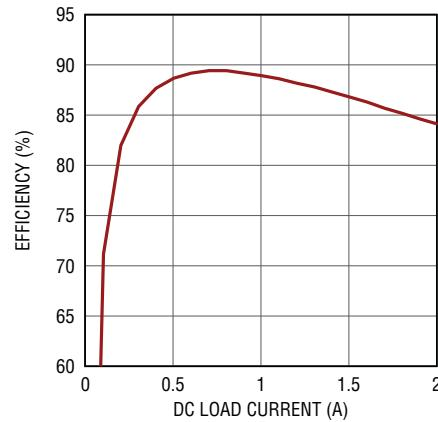

Figure 3. Efficiency vs. Load Current at $V_{IN} = 3.3V$, $V_{OUT1} = 1.2V$, $f_{SW} = 2MHz$
1. When measuring the output or input voltage ripple, do not use the long ground lead on the oscilloscope probe. See Figure 3 for the proper scope probe technique. Short, stiff leads need to be soldered to the (+) and (-) terminals of an output capacitor. The probe's ground ring needs to touch the (-) lead and the probe tip needs to touch the (+) lead.